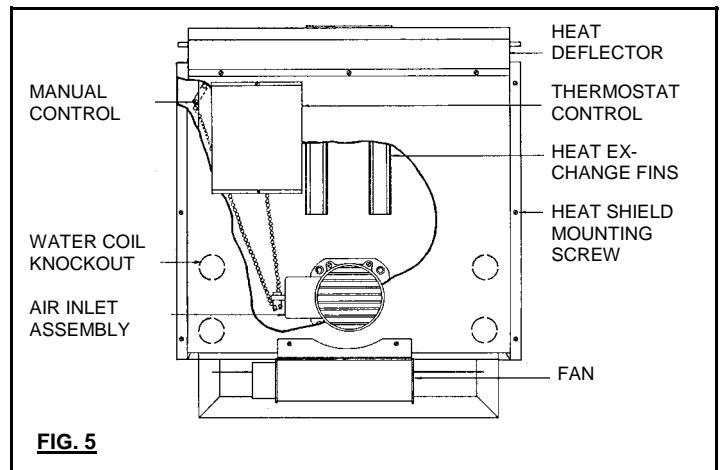

FIG. 5
2. Remove rear heat shield and hammer out the 2 knockouts on the side desired. (see Fig 5)